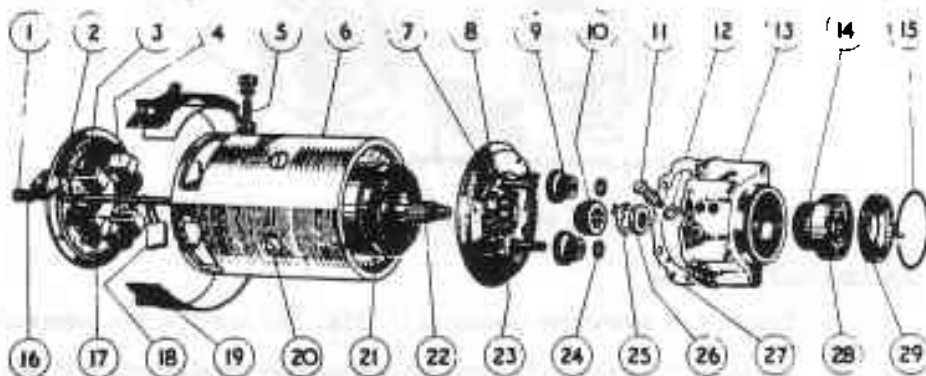

FIG. M8. STARTER MOTOR AND REDUCTION GEAR.
Remove the cover band (19, Fig. M8), hold back each of the brush springs (3) and move the brush. If sluggish, remove brush (4) and ease sides with smooth file.
Remove the aluminium casing, (13, Fig. M8) and the two compound pinions(9)